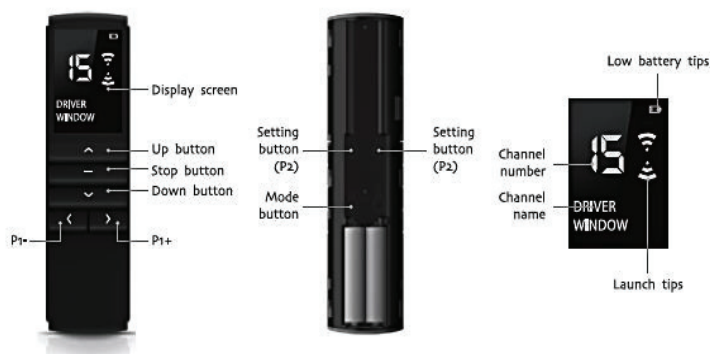

Fig. 2
3. Press and release P2 on the remote (shade will jog) see Figure 2.